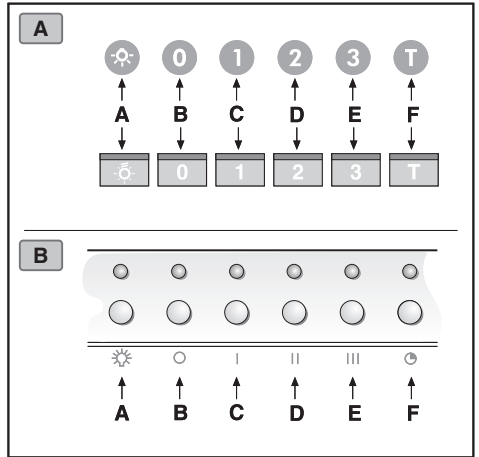

Fig.12
- **Commands luminous (Fig.12.A.B.)** the key symbols are explained below: